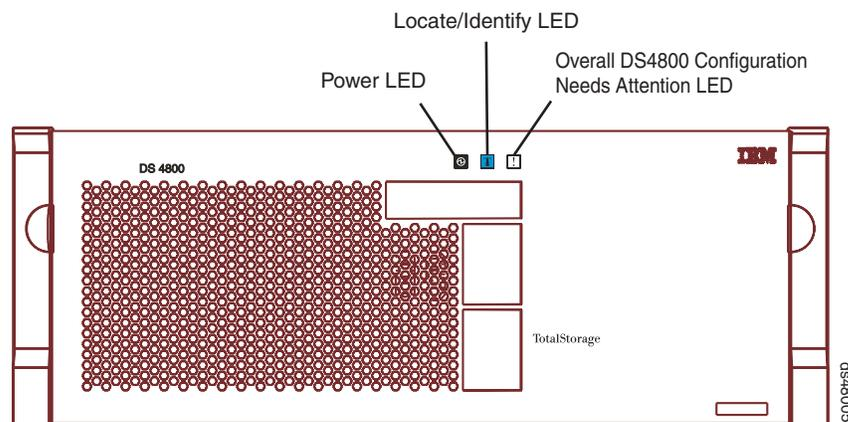

Figure 86. Overall DS4800 Configuration Needs Attention LED on the DS4800 front bezel
2. Locate the storage subsystem that has the failed SFP module by checking the Overall DS4800 Configuration Needs Attention LED on the front bezel of the storage subsystem. (Figure 86 shows the location of the Overall DS4800 Configuration Needs Attention LED on the front bezel.)